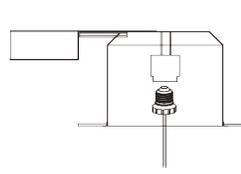

Fig. 9
3. Twist the E26 base adaptor to socket. (Fig. 9)